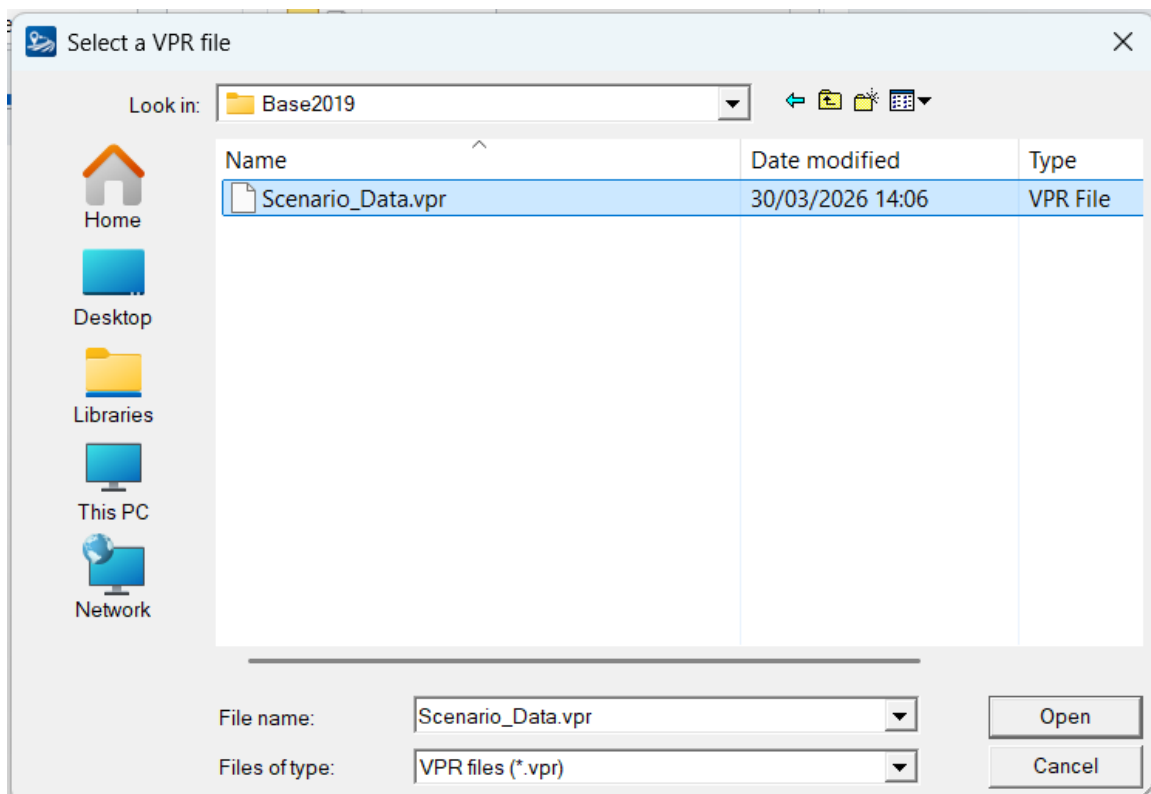

Figure 109 Select vpr file
- 3) Select the Vpr file from scenario having the map the user wants to use (in the example Base2006R64 folder and Output0_Base2006R64.vpr file), see Figure 109.